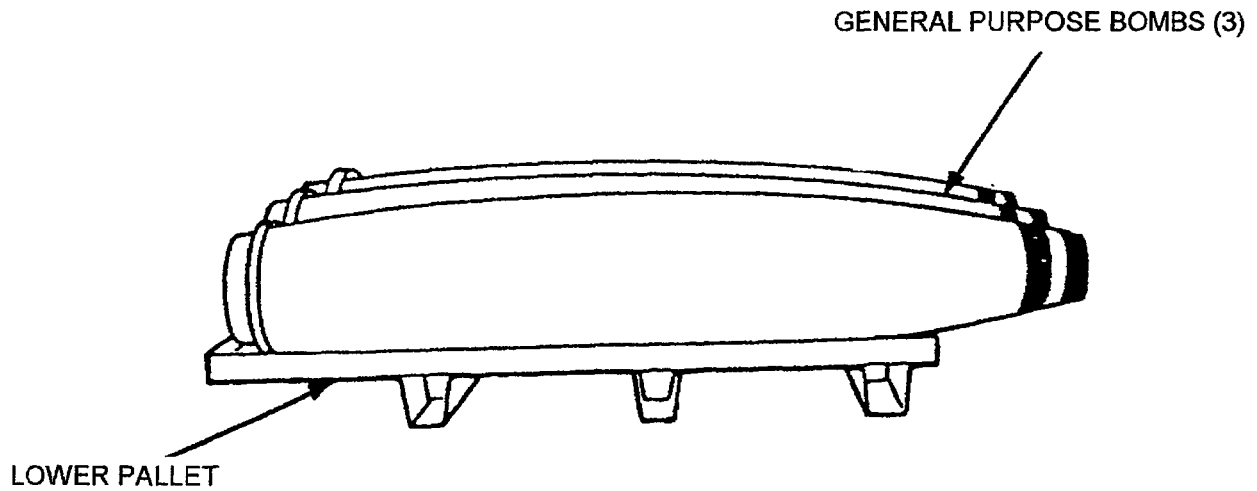

Figure 5-8C. Bomb Placement
- l. Place bomb on pallet (Figure 5-8C).